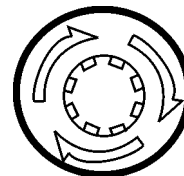

Figure 55. Emergency Stop Button
1. To stop the engine in the event of an emergency, **PUSH** the emergency stop button (Figure 55) inward. This button is located on the engine operating panel, see Figure 5.